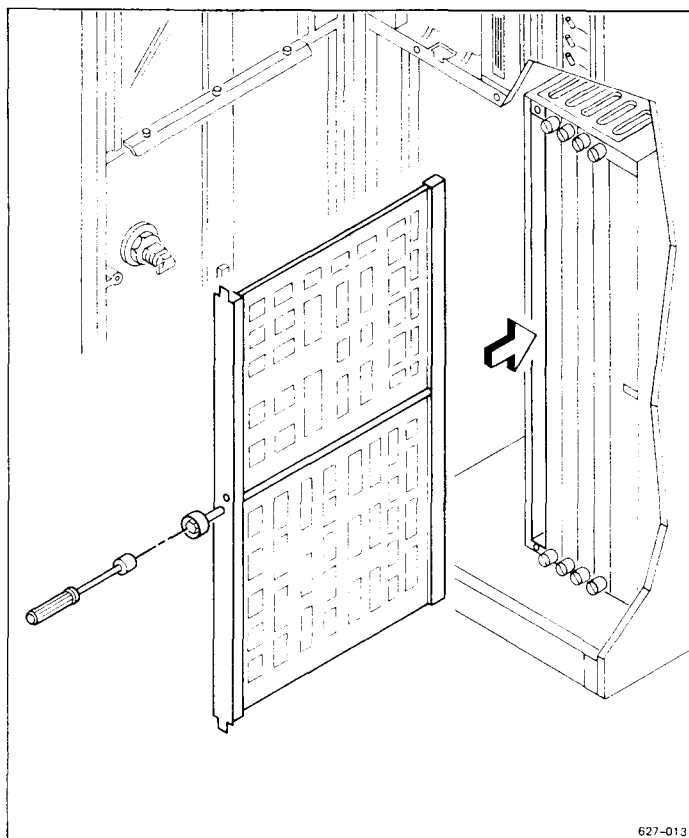

Figure 7-6. Installing the VME Interface Adapter Board
4. Slide the top and bottom edges of the board into the guides in the card cage until the board meets a solid resistance (see Figure 7-6).